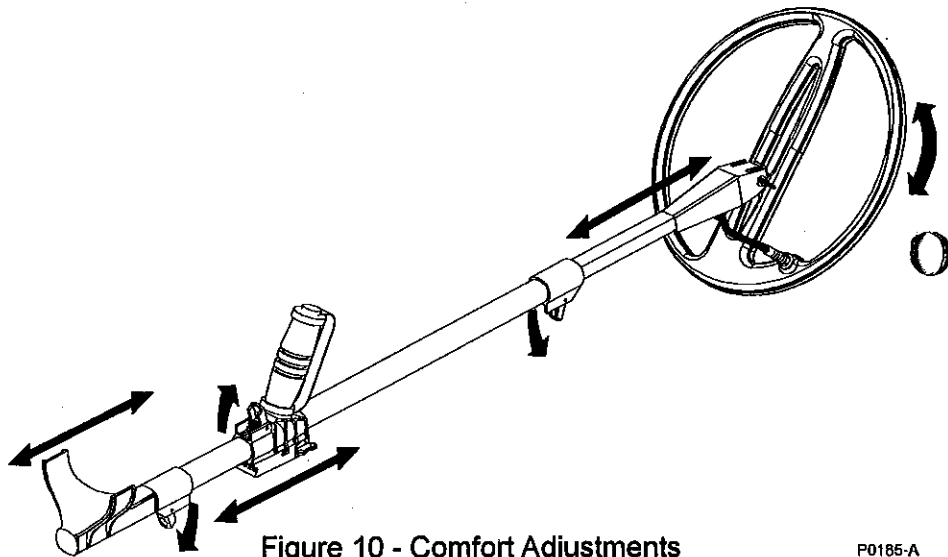

Figure 10 - Comfort Adjustments
4.6 Comfort Adjustments (see Figure 10)